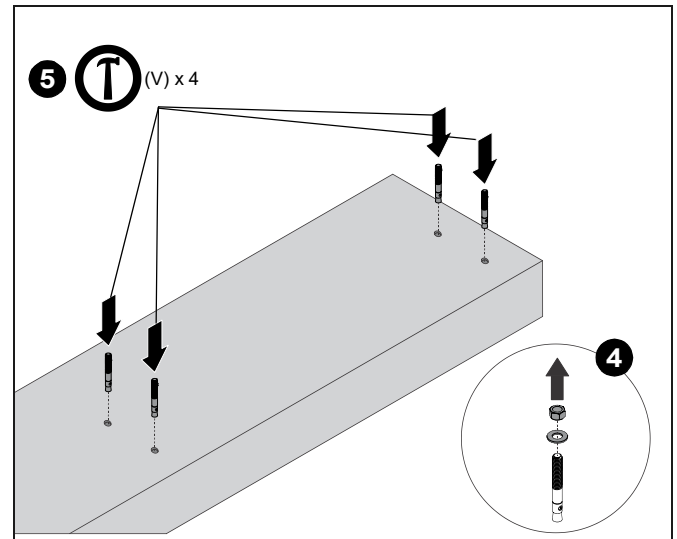

Figure 4
3. Hammer drill 3/8" diameter x 2 5/8" (minimum) deep hole at each marked cable anchor support location (See Figure 4). Ensure hole is at least 2-1/2" from nearest concrete edge. Remove debris from hole.
4. Remove the installed nut and washer from each of the four wedge anchors (V) and set aside.
5. Drive four wedge anchors (V) into the holes in the concrete floor using a hammer. Minimum anchor embedment is 2 3/8". (See Figure 4)